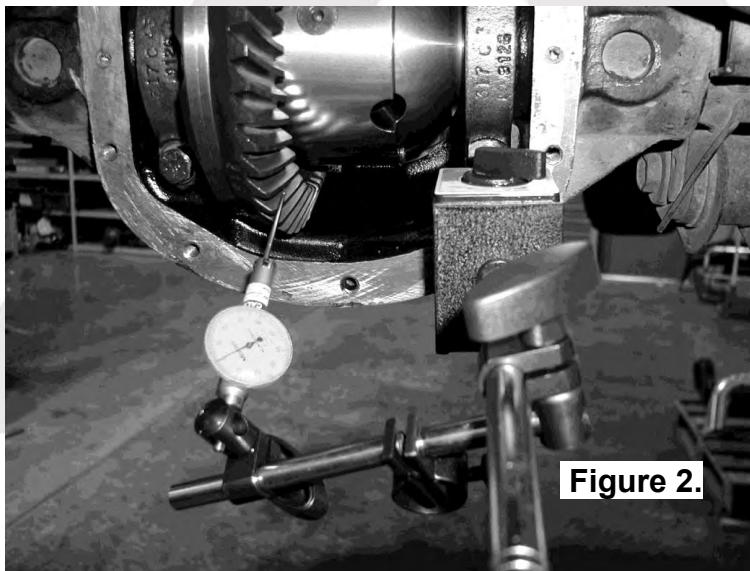

Figure 2.
- Set a depth indicator on one of the ring gear teeth (Figure 2.).